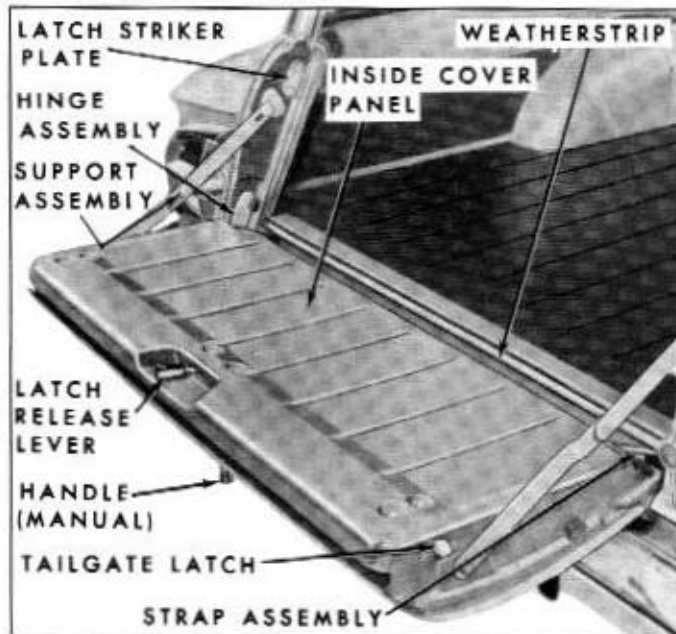

Fig. 13H-2—Tail Gate Assembly—(60C-8013)
2. Disconnect the tail gate supports at the tail gate. See figure 13H-2.
3. Remove the screws securing the inside cover panel to the tail gate. Remove the cover panel. See figure 13H-3.